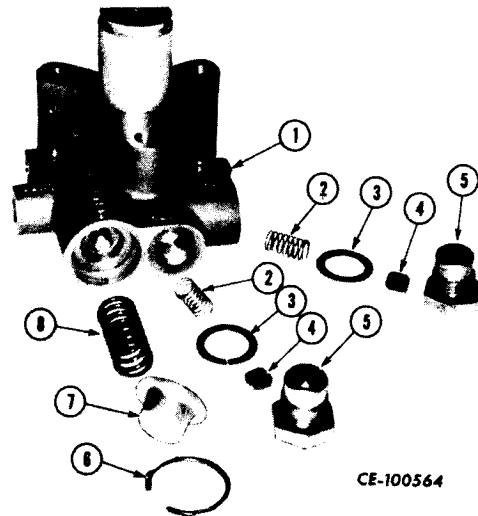

Figure 13-31
Remove plugs (5, Fig. 13-31) from section (1). Do not damage copper washers (3). Remove screens (4) and springs (2) from plugs. Remove snap ring (6) with snap ring pliers. Spring (8) and seat (7) will pop out.